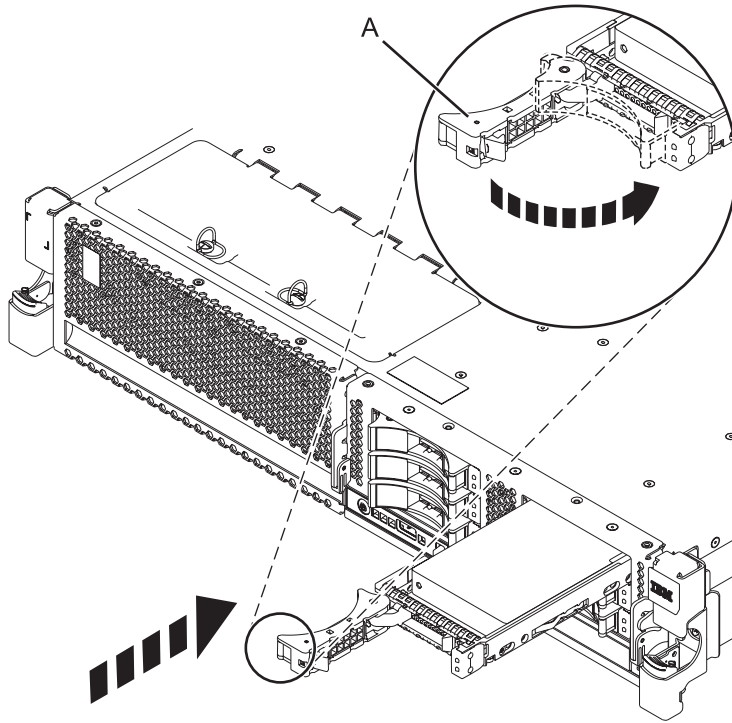

Figure 31. Installing a disk drive in the system
5. When the identify LED flashes, slide the drive all the way into the system, and push the drive handle (A) in until it locks, as shown in Figure 31 on page 51.